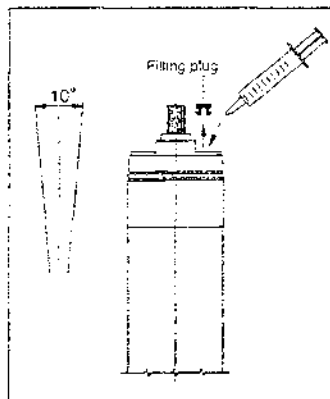

Fig. 3
4. Inject motor liquid into the motor with a filling syringe or similar tool, see fig. 3.